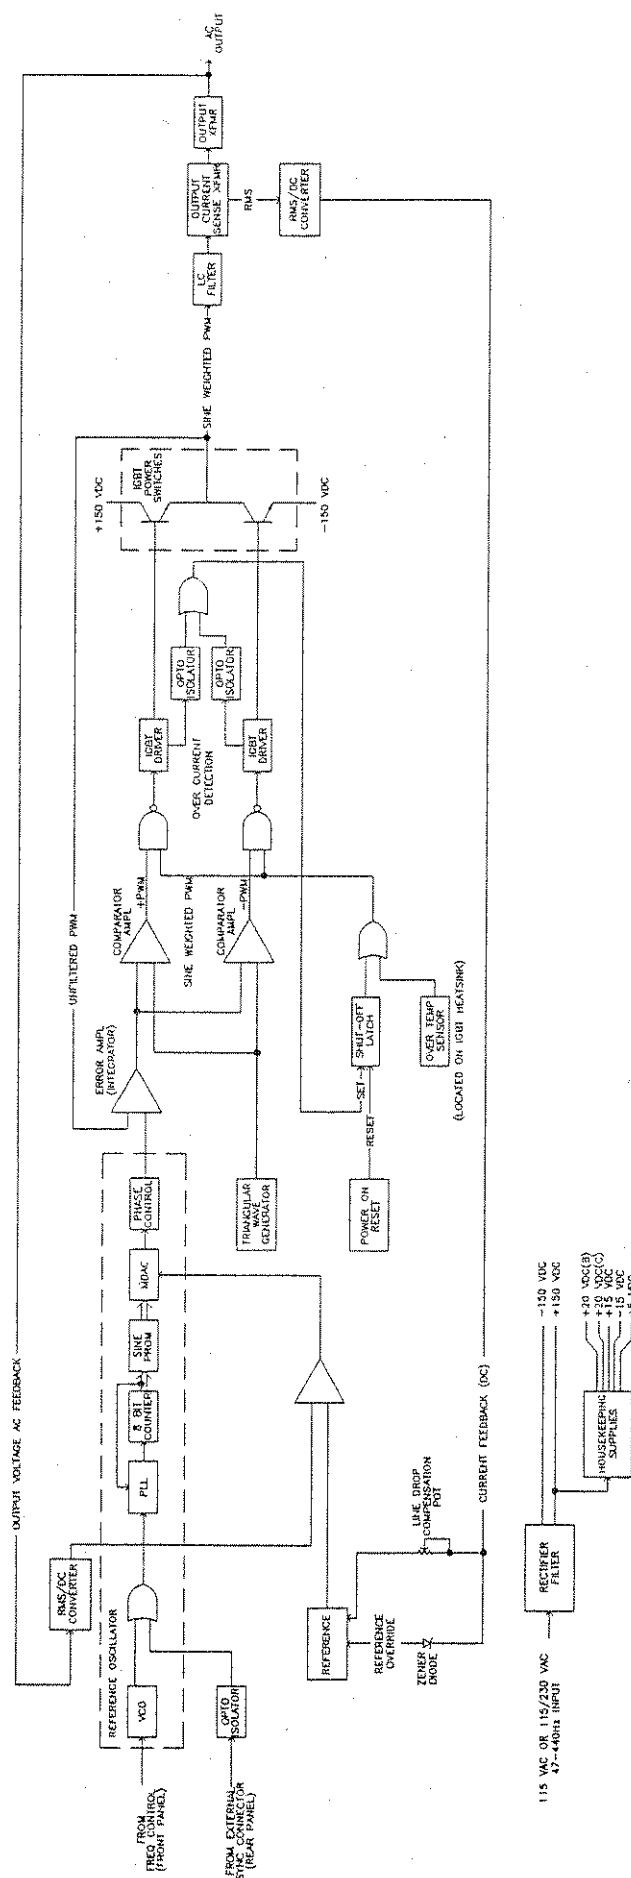

Figure 1. SYSTEM BLOCK DIAGRAM FOR SINGLE PHASE
5.3.1 The reference oscillator and associated circuitry are shown in figure 1. The reference oscillator produces a digitally derived sine wave in which the amplitude and frequency are controlled by DC levels selected by the unit's FREQ and VOLTS front panel control settings or from external inputs. The DC voltage from the FREQ control is applied to the voltage controlled oscillator (VCO). The resulting pulse train frequency is proportional to its input DC voltage.